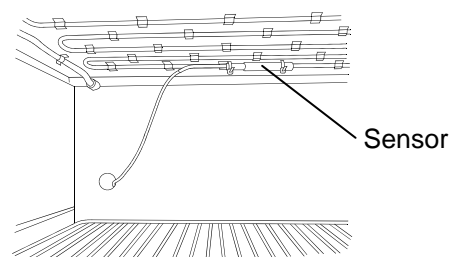

Fig. 9
9. After covering the recorder sensor with the cover provided, fix the recorder sensor under the 3rd shelf by using 2 enclosed binders. See Fig. 9.